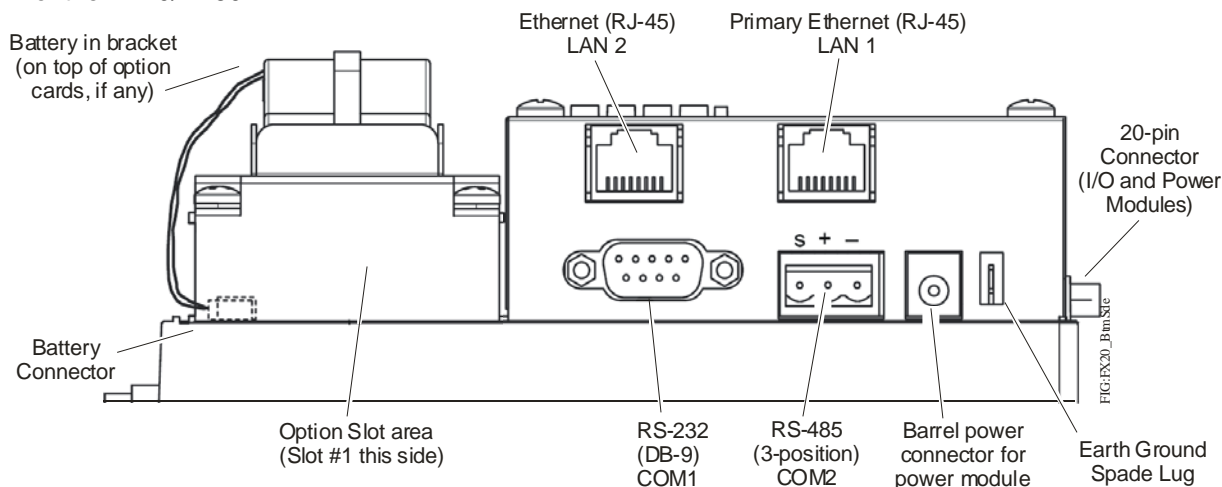

Figure 9: FX20/FX60 Bottom Side (Cover Removed)
Three models of wall power modules are available: United States (U.S.), European Union (EU), and United Kingdom (U.K.). All are self-contained, isolated switching power supplies designed to plug into a standard building power receptacle for appropriate voltage. To supply power to the FX20/FX60, you simply plug the barrel connector plug from the power module into the barrel power connector on the FX20/FX60 base unit (see Figure 9).
Two RJ-45 connectors labeled LAN1 and LAN2 are provided for the Ethernet connections (Figure 9). Use a standard Ethernet patch cable for connecting to a hub or Ethernet switch. An activity LED for each Ethernet port is visible, labeled LAN1 and LAN2 on the cover.
The FX20/FX60 has two serial ports (see Figure 9). Each port has a Universal Asynchronous Receive Transmit (UART) capable of operation of up to 115,200 baud. The left port is an RS-232 port that requires a DB-9 male plug connector. The right port is a non-isolated RS-485 port that uses two wires with a shield connection and a screw-terminal connector plug. In addition, the FX60 controller has a standard Universal Serial Bus (USB) port (not shown).